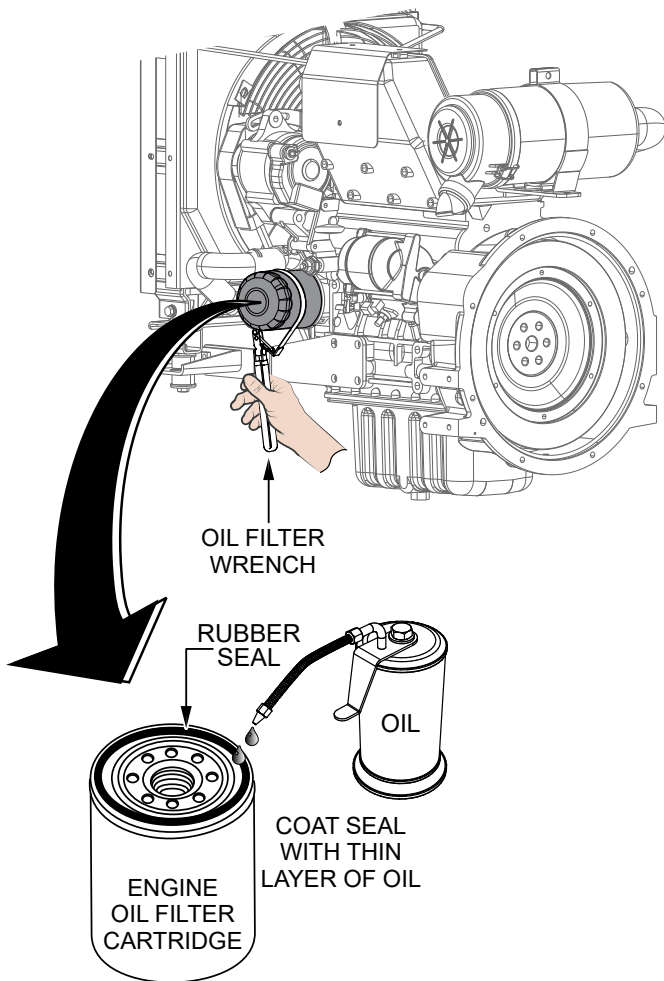

Figure 20. Oil Filter Removal
7. Using a filter wrench (Figure 20), remove the **engine oil filter**.
9. Lightly coat the **gasket** of the new oil filter (Figure 20) with clean engine oil.